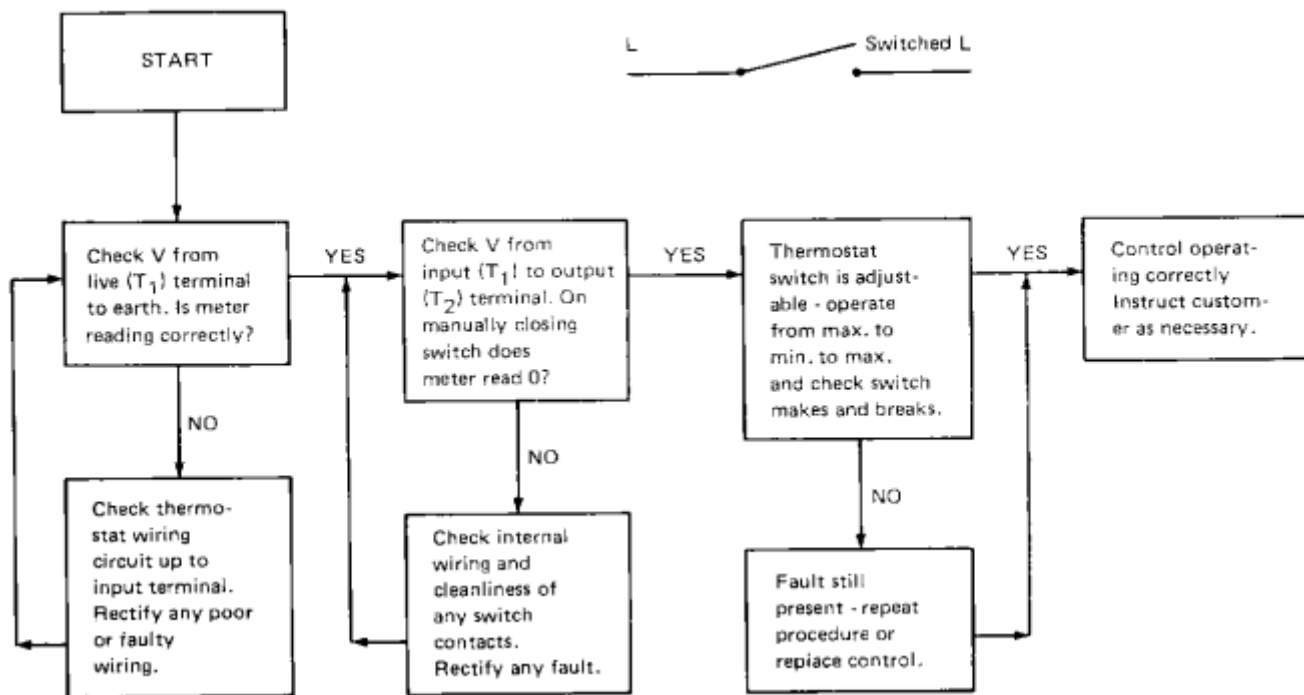

FIG. 17 THERMOSTAT
(4) Thermostat out of calibration or faulty	Check thermostat using procedure given in Figure 17 . If faulty, replace thermostat as detailed in Maintenance Instructions, Section 7 .f.
(5) Blocked main burner injector	Clean or replace injection as detailed in Maintenance Instructions Section 7.a.
D. Main burner fails to shut down when water reaches predetermined temperature	(1) Thermostat out of calibration or faulty.	Remedy as in item C(4).